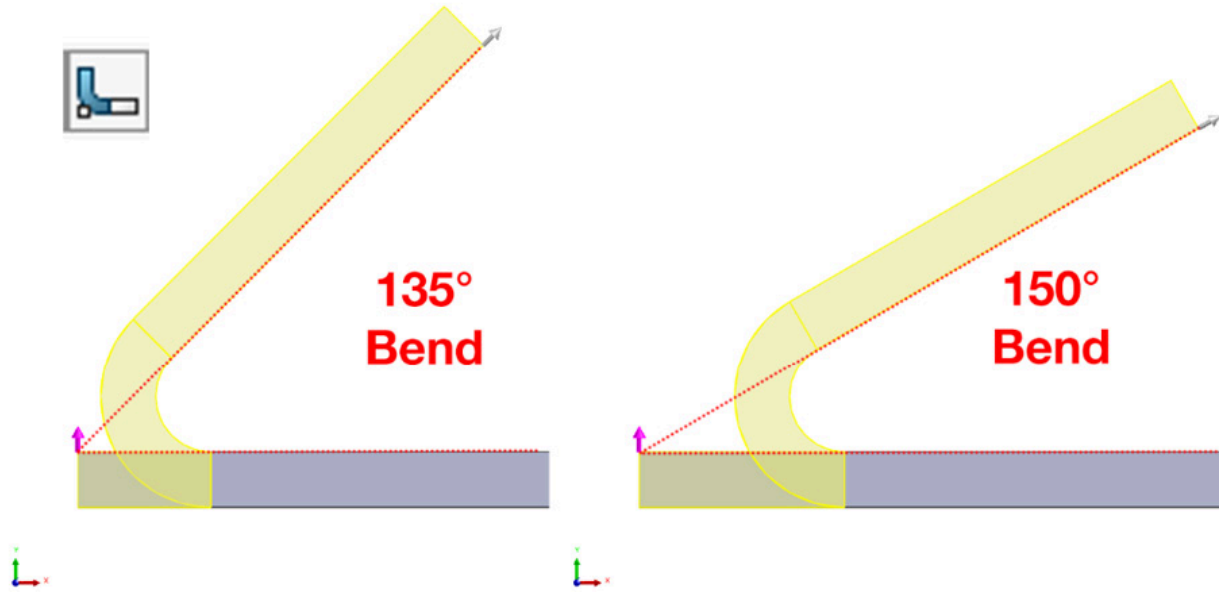

Figure 2.11: The Bend from Virtual Sharp option, with two different bend angles
- **Bend from Virtual Sharp:** The fourth and fifth options are more specialized and used less often in everyday modeling, but they can still be useful. The **Bend from Virtual Sharp** option bases the bend on the position where a sharp corner between the top face of the fixed flange and the inner face of the Edge Flange would be. In *Figure 2.11*, we can see two different bend angles to demonstrate this. Note that this option can only be used with bend sizes of over 90°.